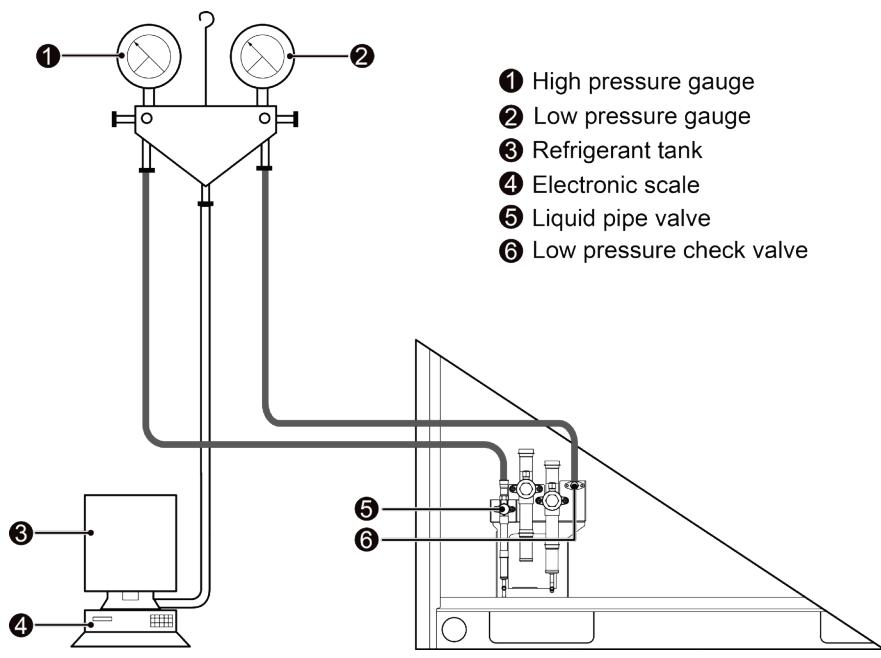

Fig.3.7.3
(2) Start-up charging of refrigerant.
Step 1: Close the refrigerant tank valve and reconnect the pipe of pressure gauge. Remove the pipe of low pressure gauge from the check port of low pressure gas pipe valve and connect it to the low pressure check valve (as shown in the Fig.3.7.3).